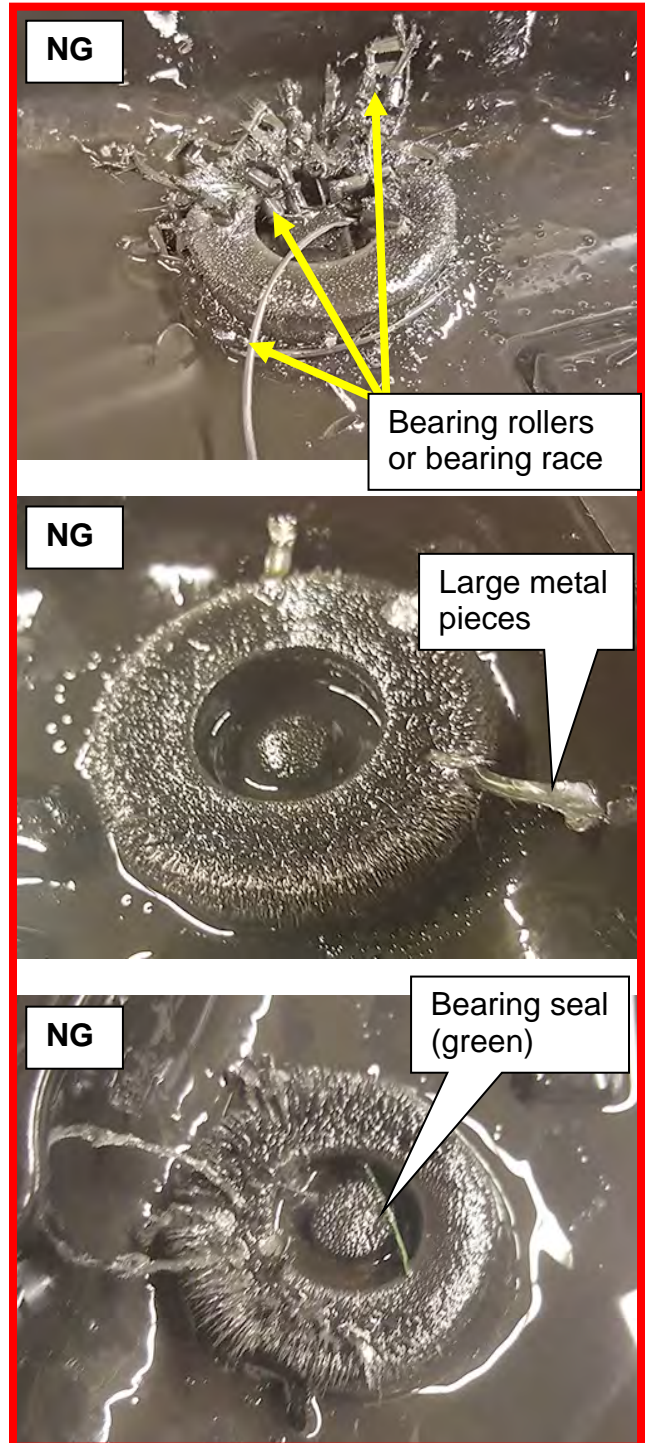

Figure 4B
- Figure 4B is **NG** - Broken parts would include pieces of bearing cages, bearings, clutch material, belt elements, etc.